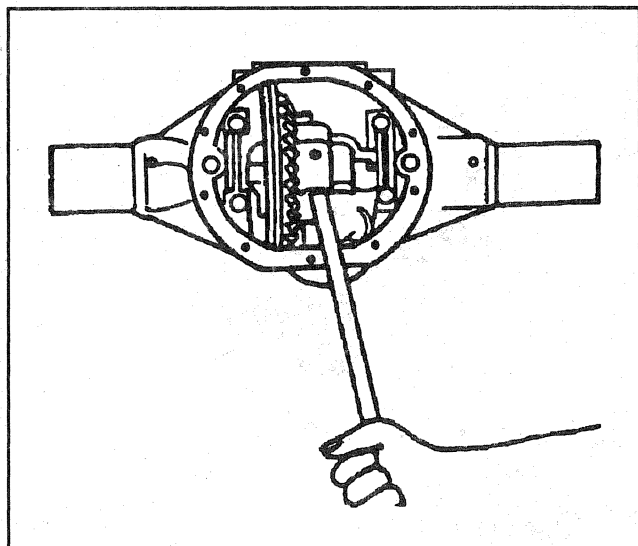

Figure 3—Prying the Differential Case
11. Differential case (24).
- Pry the case from the axle housing at the differential "window" (Figure 3).